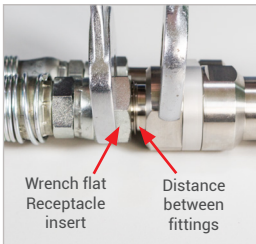

Figure 7
- ▶ Do not cover the area between the fittings (*Figure 7*). The pressure must be able to escape unimpeded here when the fittings are loosened. Ensure that you maintain a sufficient safety distance from your body, face and hands as you are loosening the fittings
- ▶ Loosen the fitting of the filling hose on port "B2" of the receptacle insert (Pos. 7) of the breakaway coupling. To do so, hold an open-ended wrench against wrench flat A/F(2) of the receptacle insert (*Figure 7*).
Attention: Do not cover the area between the filling hose and breakaway coupling (*Figure 7*).